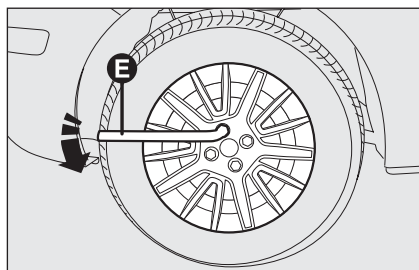

fig. 3
- ☐ loosen the bolts of the wheel to be replaced by about one turn with the wrench provided **E-fig. 3**; if the car is fitted with alloy rims, shake the car to facilitate removing the rim from the wheel hub;